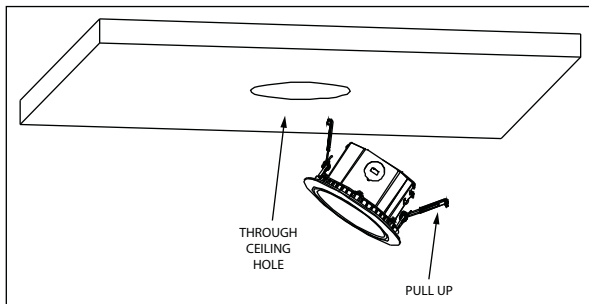

Figure 3 / Figura 3 / Schéma 3
3. Pull the spring clip on the fixture up and through the ceiling hole and place module in the hole making sure the spring clips are holding securely. (Figure 3)